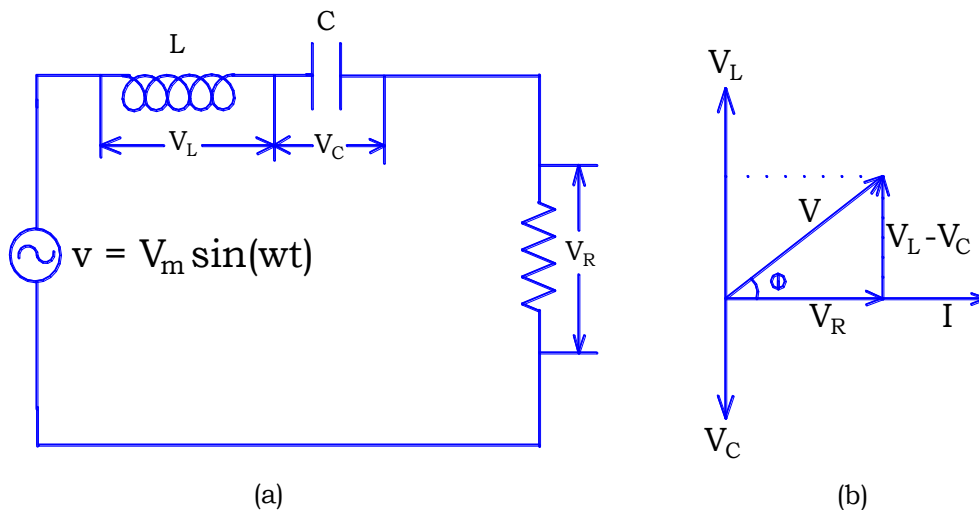

Fig. 5.12
Consider an AC circuit consisting of an inductance (L), a capacitance (C) and a resistance (R) connected in series to an AC source as shown in fig. 5.12 whose frequency is varied.
Sine wave represented in equation 1 is applied to the series RLC circuit shown in fig.5.12(a).
$V_R$  is in phase with  $I$ ,  $V_L$  leads  $I$  by  $90^\circ$  while  $V_C$  lags behind  $I$  by  $90^\circ$ . Assuming  $V_L > V_C$  the various voltage  $V_R$ ,  $V_L$  and  $V_C$  can be represented by vectors as shown in fig. 5.12(b). **In a series circuit the current remains same, hence current is taken as reference in the phasor diagram.**